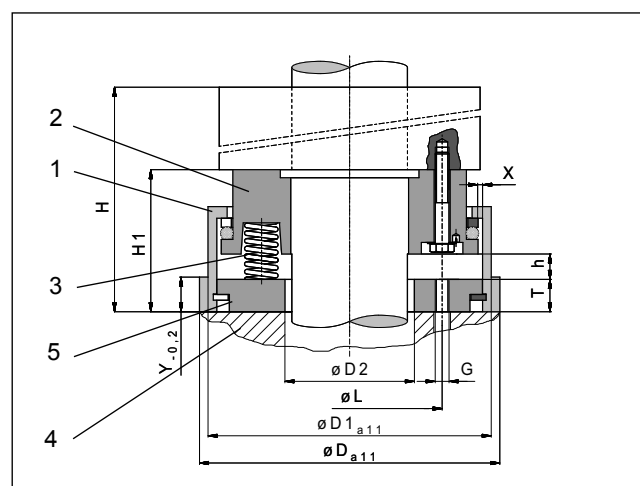

Fig. 2: Dimensions of spring base for Safety Catchers KRP 100 and K 100 to K 140
Connected to the flange plate (5) Fig. 2 the housing (1) Fig. 2 is securely fixed to the machine frame (4) Fig. 2.
The bottom plate (2) Fig. 2 bears the Safety Catcher and is securely fixed to it.
When released (i.e. not under load) the Safety Catcher and the bottom plate are pressed upward by the springs (3) Fig. 2 against the stop.
The bottom plate is free to move vertically (stroke "h") as well as horizontally (radial play of X mm) against the machine frame (4) Fig. 2.